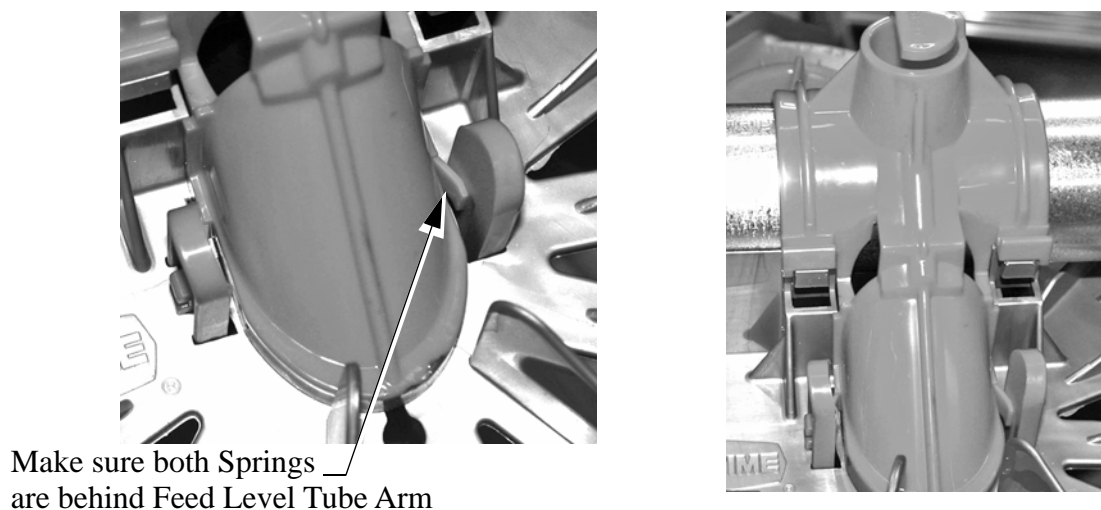

Figure 31. Feed Level Tube Arm
10. Springs are behind Feed Level Cone Arms. **See Figure 31.**